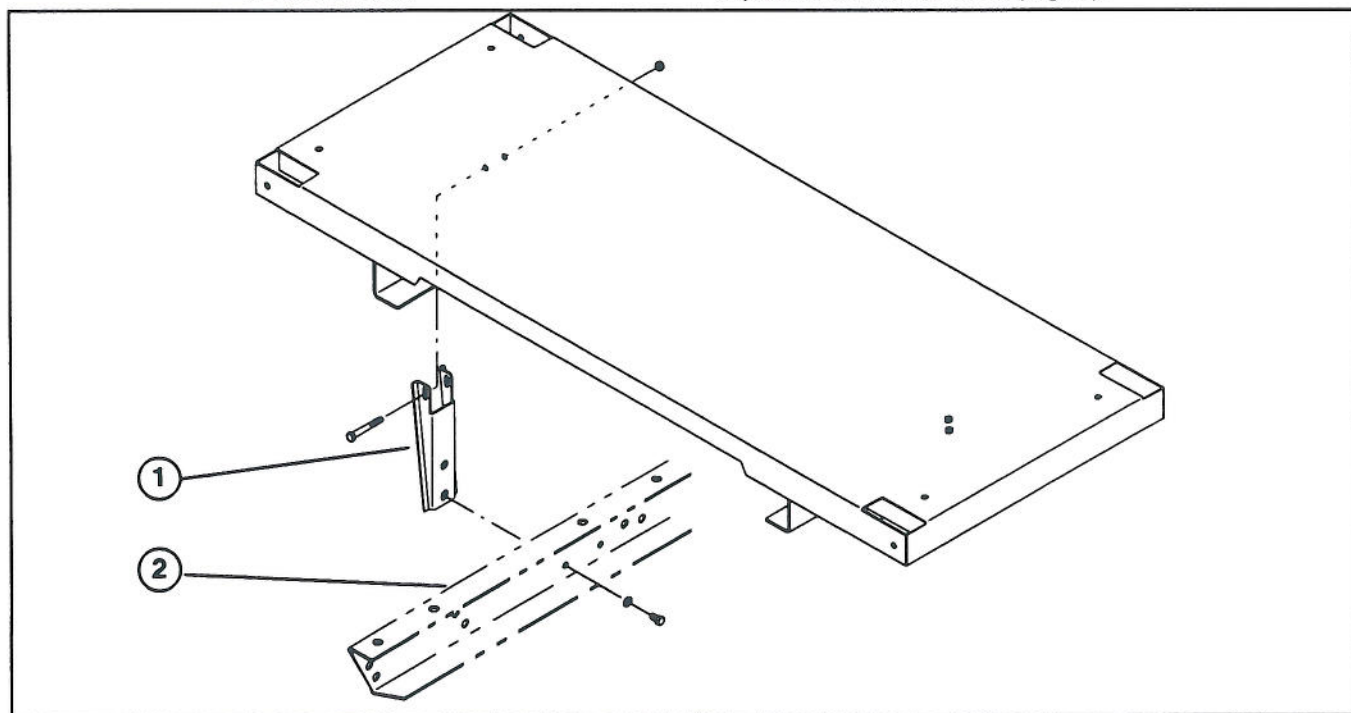

Figure 3
3. Mount channel hold down brackets to vehicle frame with the (4) 5/16-18 x 5/8" lg. capscrews and washers (Fig. 3).
4. Place bed on channel hold down brackets. Secure bed to brackets with (2) 5/16-18 x 2-1/2" lg. capscrews and locknuts (Fig. 3).